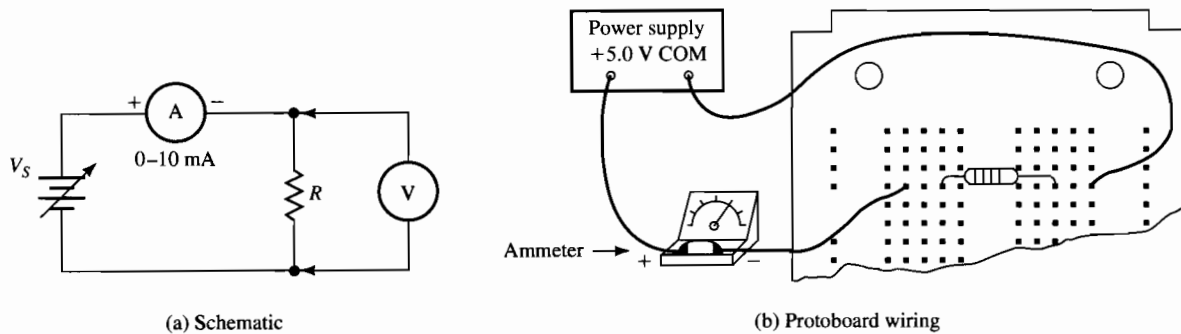

Figure 5-1
2. Connect the circuit shown in Figure 5-1(a). Notice that the ammeter is in series with the resistor and forms a single “loop” as shown in the protoboard wiring diagram in Figure 5-1(b). The voltmeter is then connected directly across the resistor.